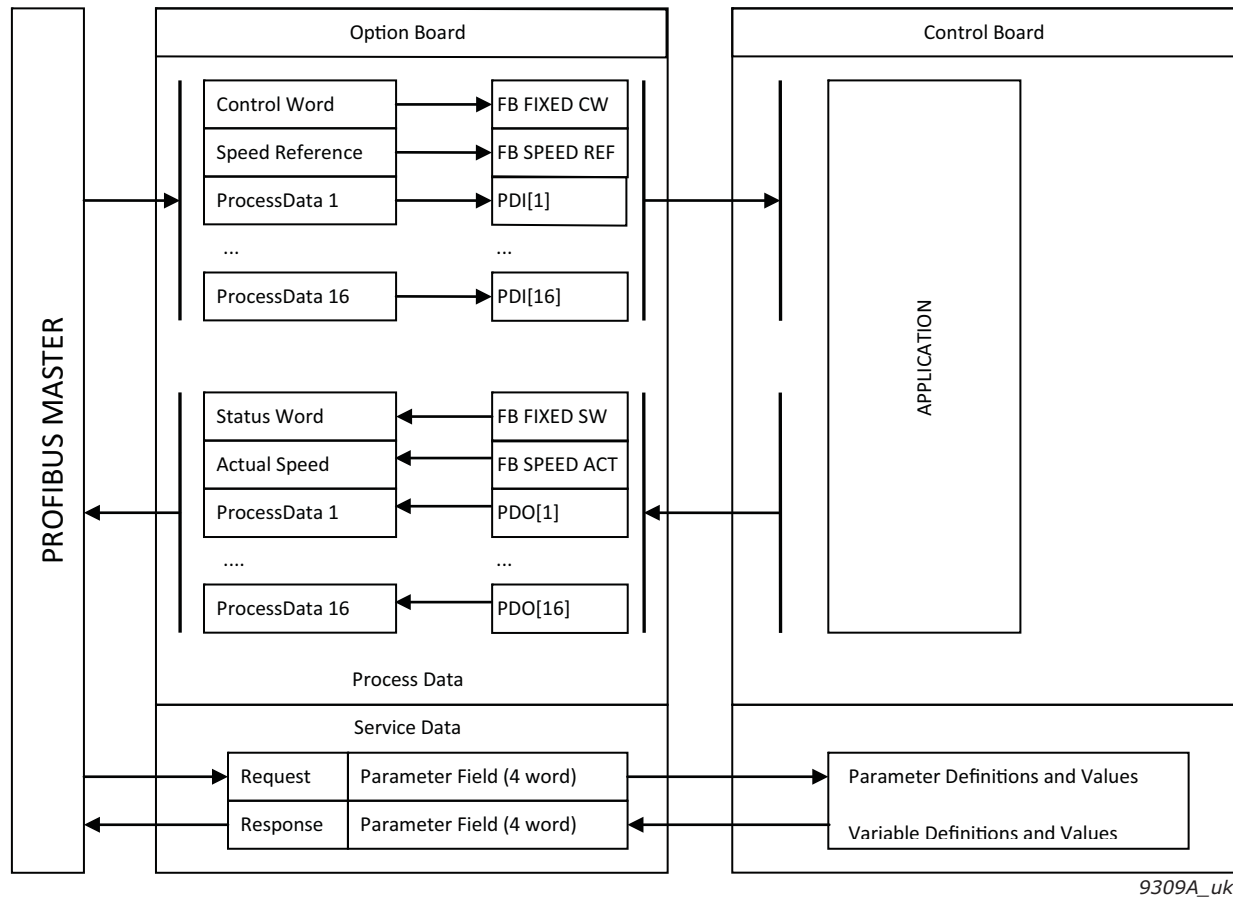

Figure 22. Data transfer between PROFIBUS master and VACON® AC drive
**NOTE!** If Standard Telegrams are used in data exchange, Service Data is communicated using the acyclic data exchange as specified in DP-V1 and the PROFIdrive 4.1 specification. (See Figure 22).